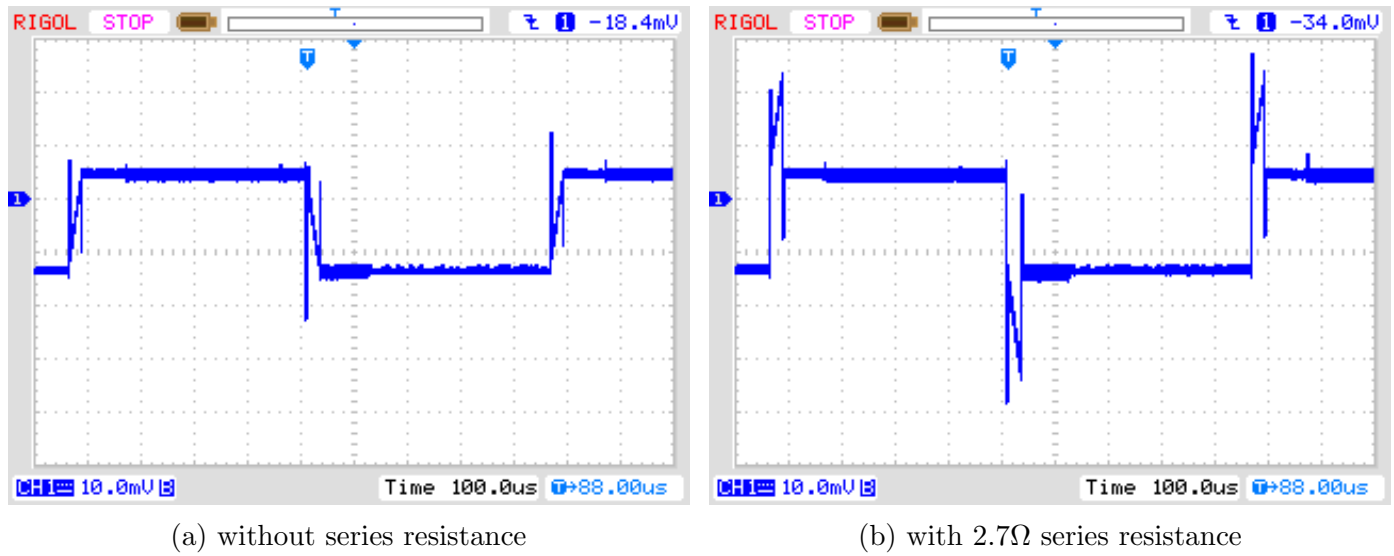

Figure 5.39. Voltage curve of a $10\mu F$ capacitor during new ESR measurement
Due to the shorter load puls not only the ESR of capacitors with lower capacity can be measured, but this way of measurement can also be used for the measurement of resistors with little resistance, if they don't have a detectable inductance. By doing that, a resolution of 0.01Ω for this resistors can be achieved. Also the zero resistance can be detected by the calibration part of the selftest for all three test pin combination. You should keep in mind, that stable plug sockets or clamping connectors are essential for stable results. The measurement periode is about $900\mu s$, which results to a frequency of about $1.1kHz$. Because the load pulse is very short, the measurement result is comparable to measurements with $10kHz$. A measurement example with a $10\mu F$ foil capacitor, once measured alone and once measures with a 2.7Ω series resistor is shown in figure 5.39. You can see the effect of the additional resistance by comparing both diagrams. You can see also, why the ADC measurement (SH) should point to the middle of the load pulse. With big capacity values the load current is nearly stable during the total pulse length, so you will get the middle voltage at the middle time of the load pulse. With lower capacity values you will get a significant difference, which can be compensated by the known capacity value.